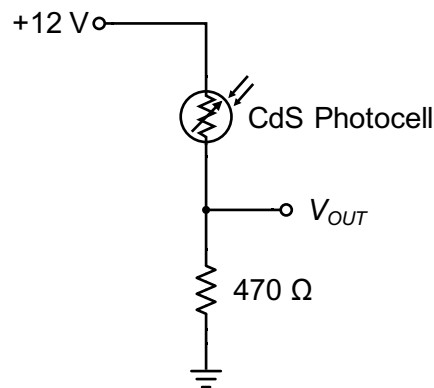

Figure 2 – The CdS photocell circuit converts light intensity to a voltage.
2. Sketch the circuit shown in Fig. 2 in your lab notebook.
4. Using the breadboard, construct the CdS photocell voltage divider circuit shown in Fig. 2. Use a multimeter to test it and make sure it works.